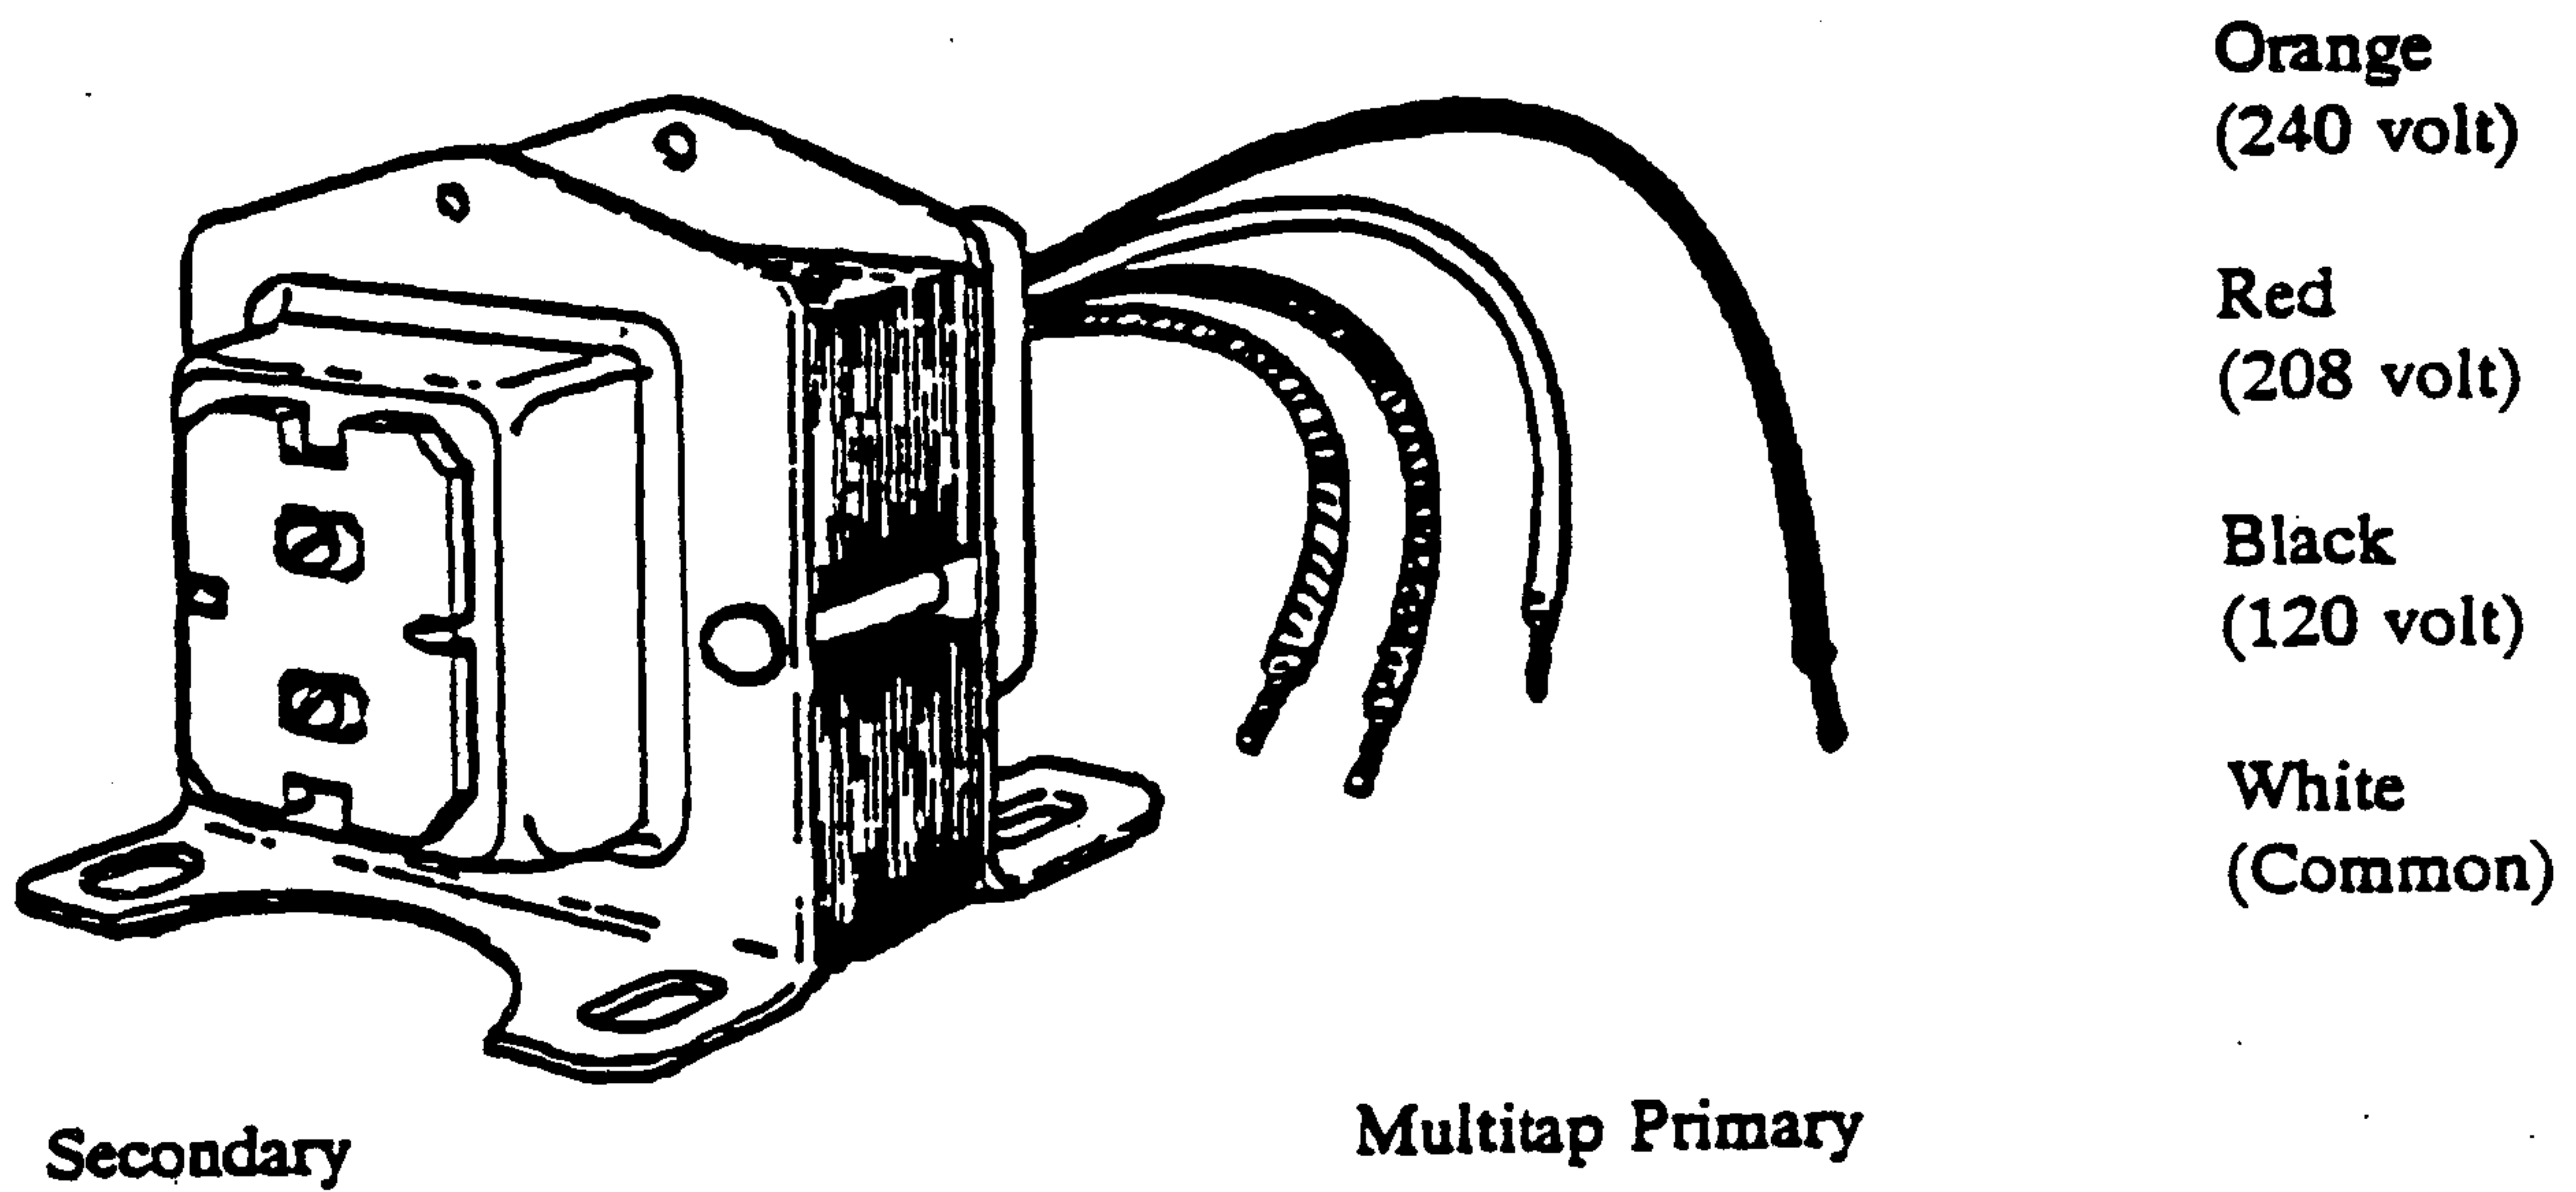
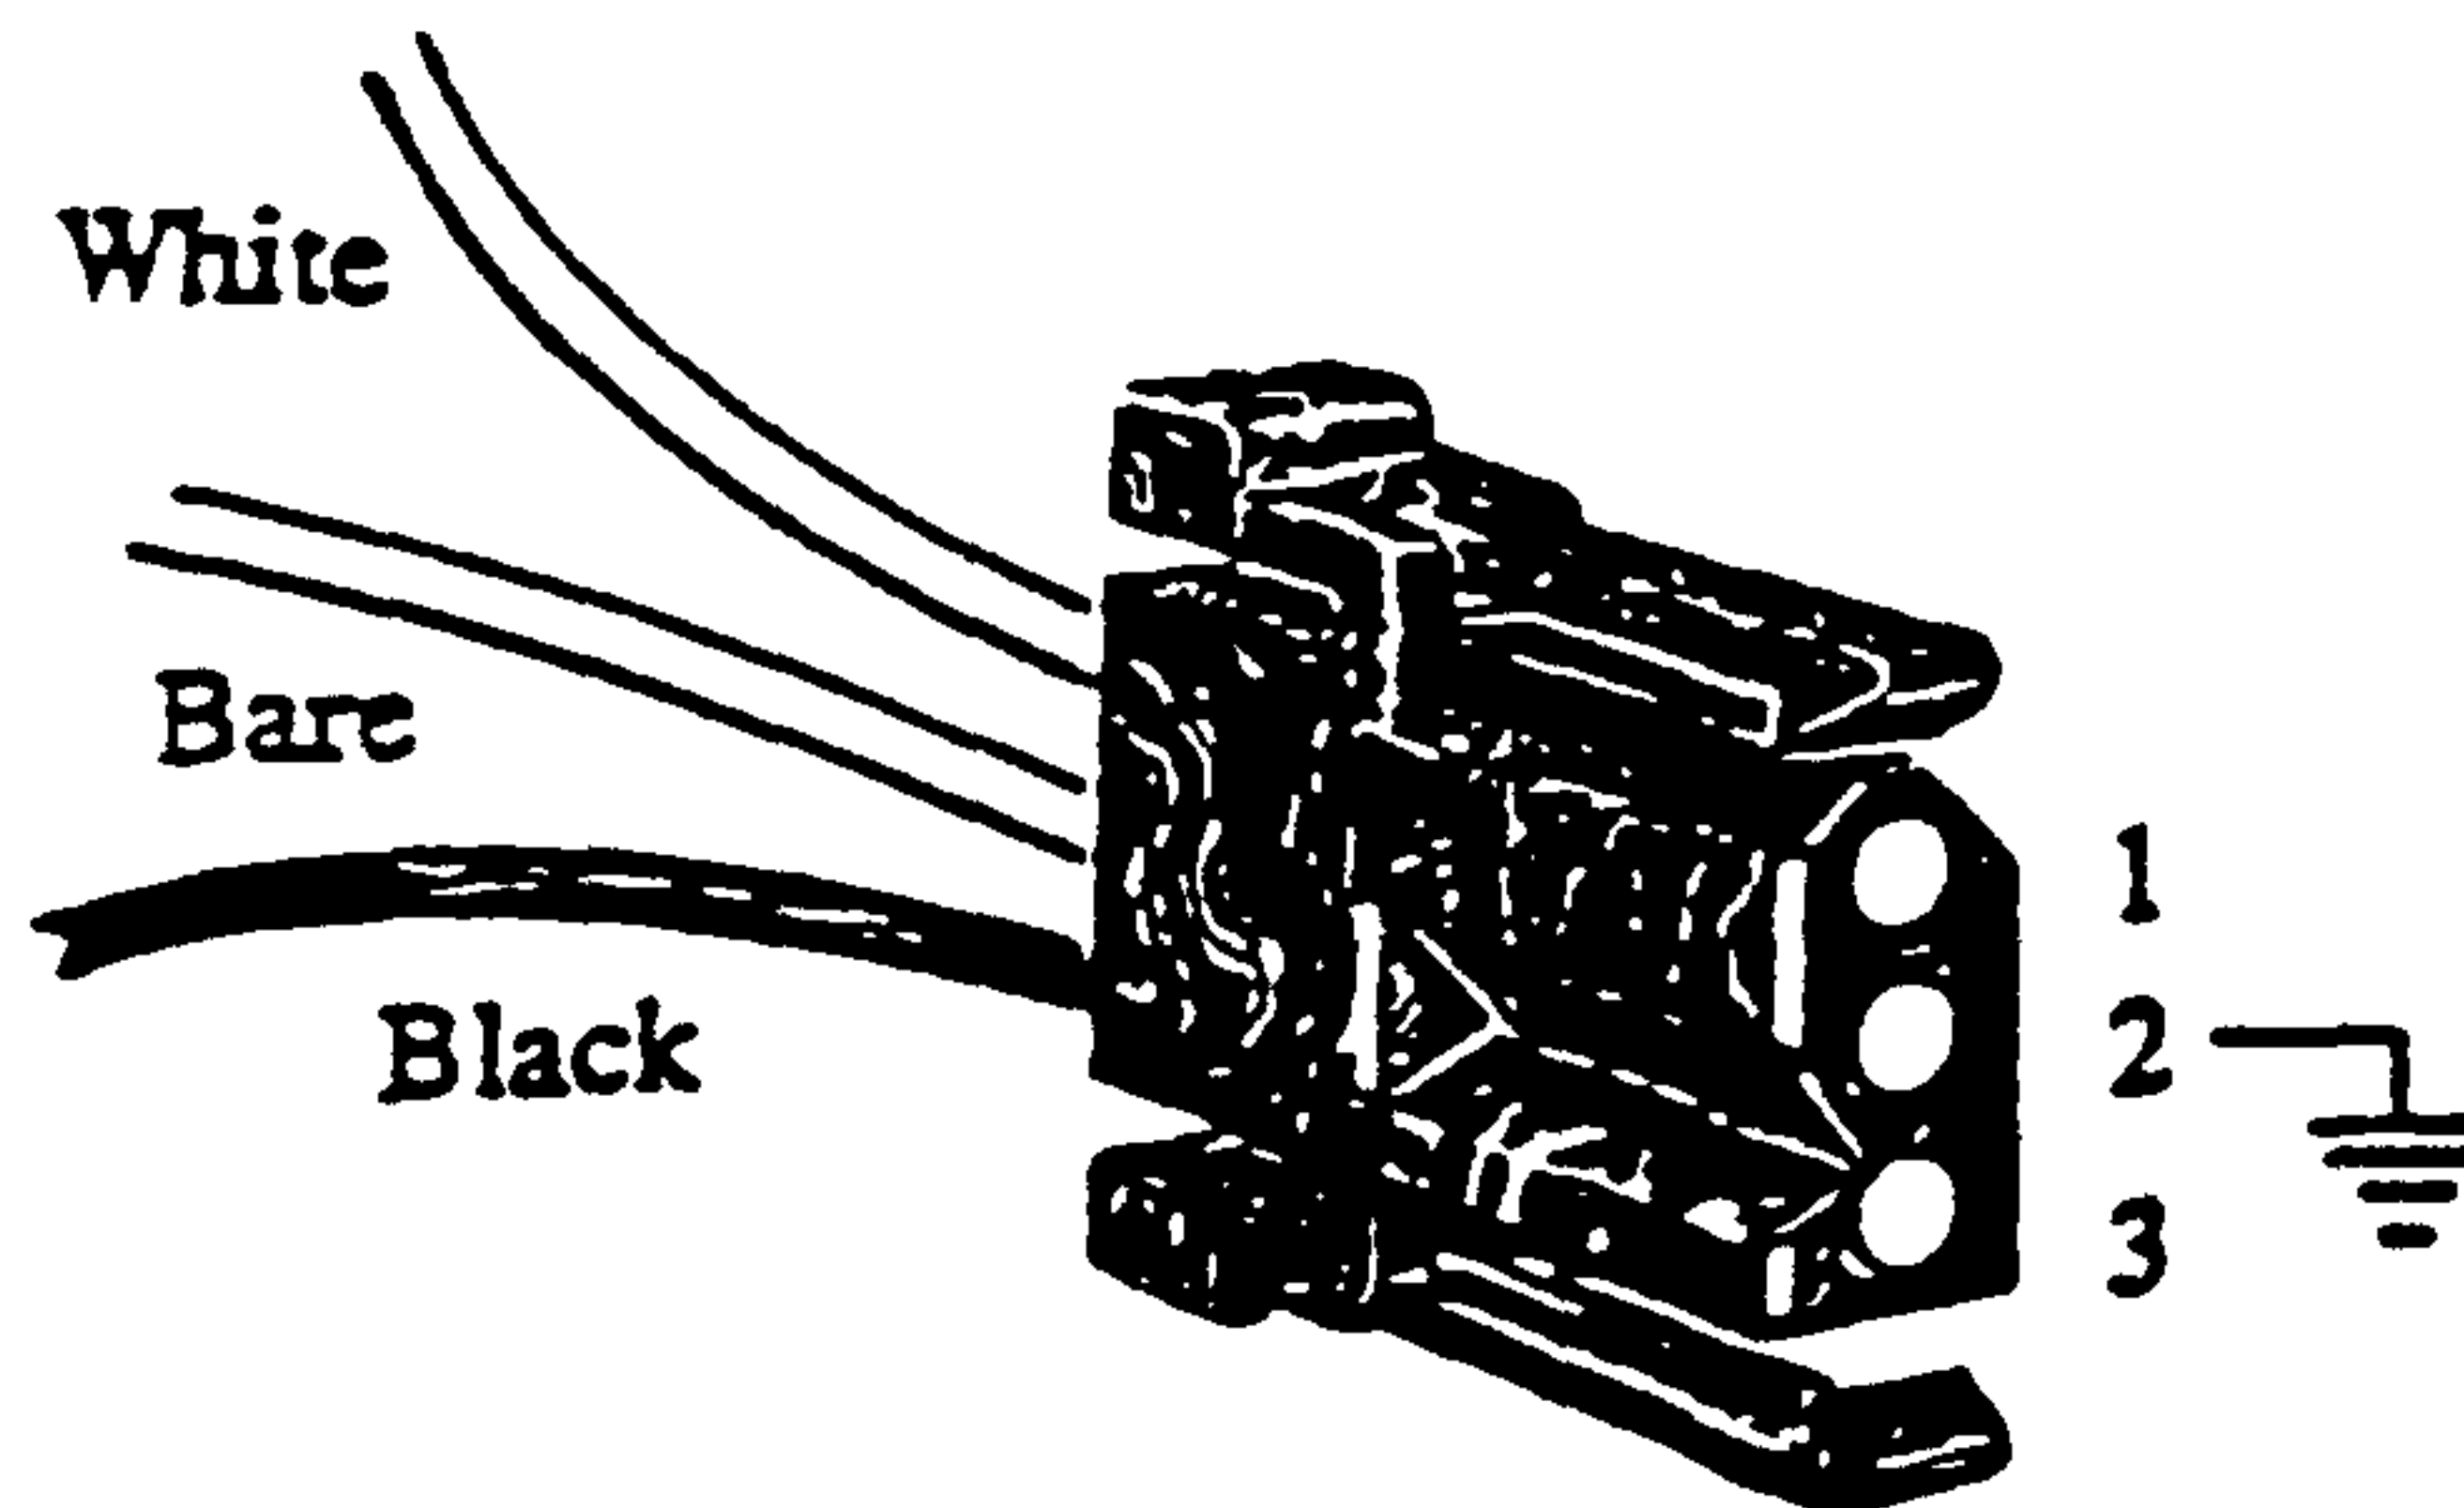

Figure 1-5. Control Transformer
Figure 1-6. 24V AC Power Plug Assembly
The Class 2 control transformer is the power source for the EPC-100, providing conversion from the power line voltages to 24V AC. See Figure 1-5. The transformer is connected to the processor assembly by the fused power cable assembly (Figure 1-6).
The transformer is a multi-tap Class II type (Figure 1-5). The 240V AC primary leads are connected to terminals L1 and L2 in the control panel. Power is connected to the EPC-100 by the fused 24 VAC power plug assembly.
4. Using a multimeter, verify 24 VAC secondary supply across terminals 1 and 3 of the power plug assembly (Figure 1-6).